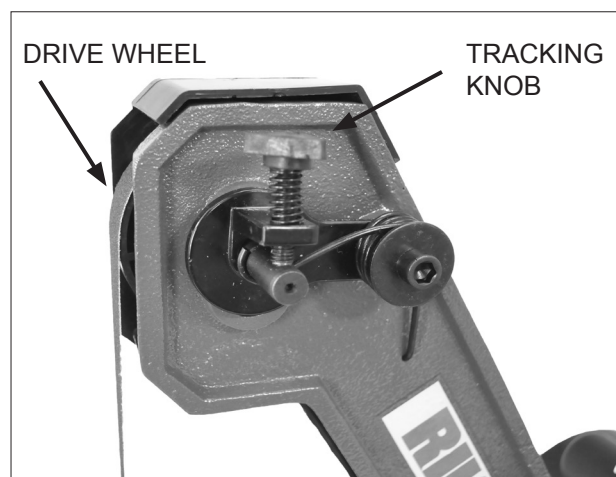

FIG. 21
2. Slowly turn the Belt Tracking Knob (#61) to correct the tracking of the belt - left or right as needed - so that the belt finally rides on the center of the top drive wheel (#72). FIG. 21.
3. Press down on the tracking knob (FIG. 21) to compress the spring tension, and then be able to slide the sanding belt off the three pulleys.